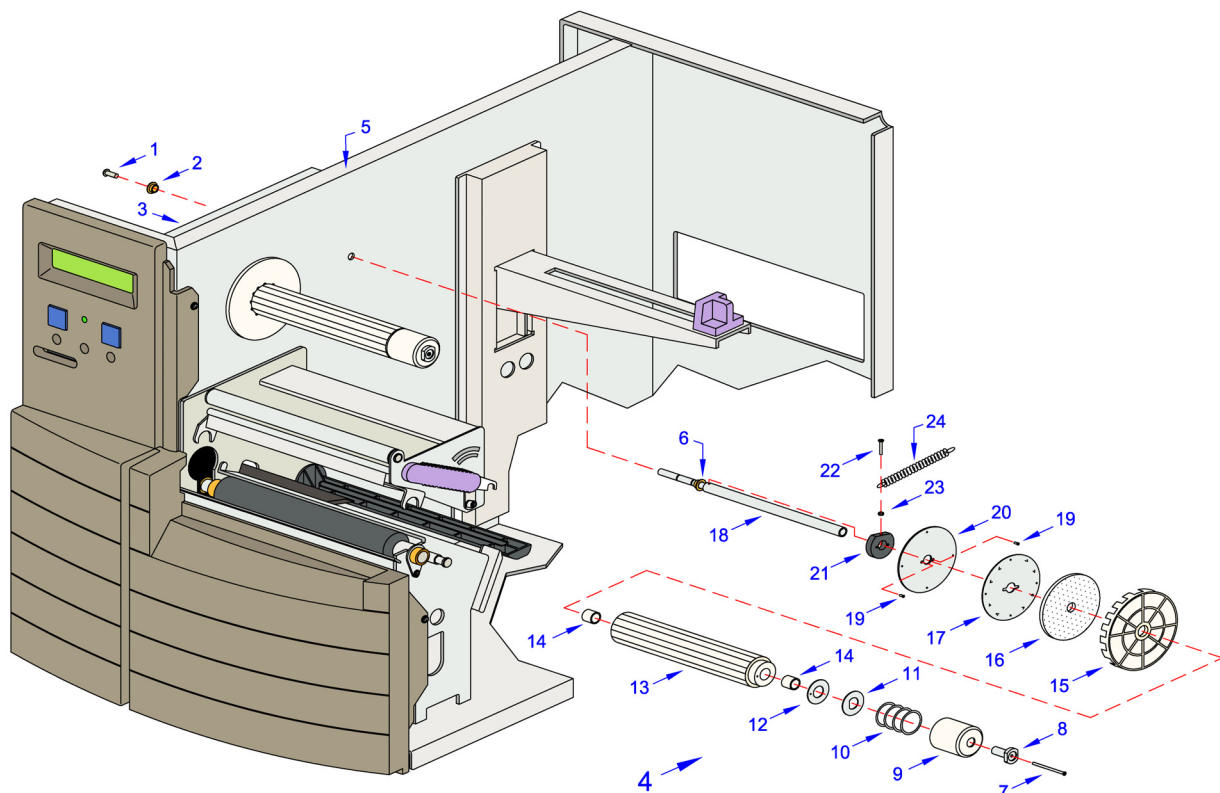

Figure 7-6, Ribbon Supply Spindle Replacement
3. Remove screw (1, Figure 7-6) and bearing (2) from ribbon spindle bracket (3).
4. Withdraw ribbon rewind spindle assembly (4) from the printer's center frame (5).
5. Withdraw bearing (6) from spindle assembly (4).
7. Remove set screw (7) followed by adjustment screw (8), boss cap (9), spring (10), D-washer (11), flat washer (12), ribbon boss (13), two plastic bushings (14), disk plate (15), lining disk (16), and hold plate (17) respectively from ribbon spindle (18).
8. Remove two screws (19) securing guide plate (20) to plate boss (21).
9. Remove screw (22) along with nut (23), spring (24) from plate boss (21) and withdraw from spindle (18).
11. Insert plate boss (21) onto ribbon spindle (18) and align their respective orifices for mounting.